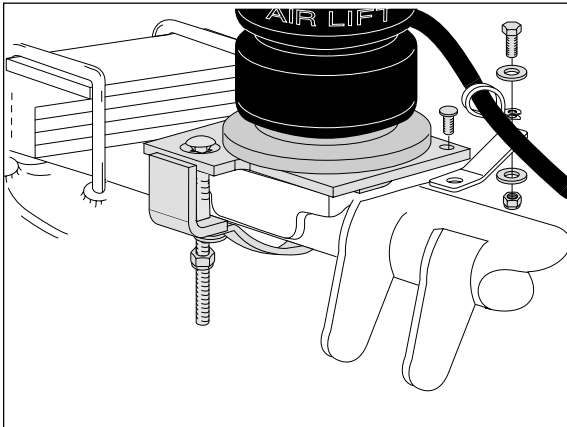

Figure 5
2. Attach the brake line clip (N) onto the emergency brake line bracket (Figure 5).